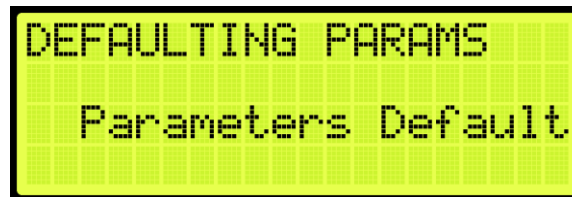

Figure 459: DEFAULTING PARAMS Menu – Parameters Defaulted
6. When the system has completed defaulting all parameters, the DEFAULTING PARAMS menu displays Parameters Defaulted (See Figure 459).
- When the system has completed defaulting all parameters, the DEFAULTING PARAMS menu displays Parameters Defaulted (See Figure 459).